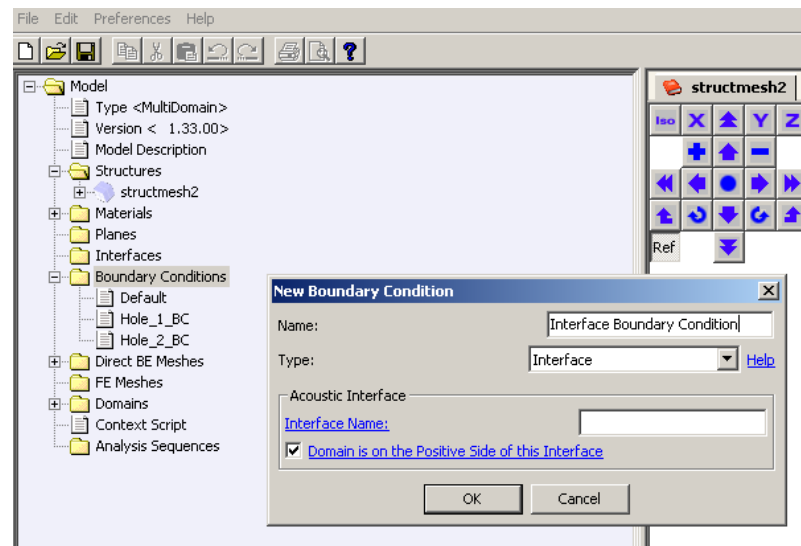

Figure 6.14 Interface Boundary Condition.
This Boundary Condition is applied on the boundary of an interface between two domains in a *MultiDomain* model. Physical details of the interface are provided in the **Model** → **Interfaces**. (Figure 6.14.)
6.5.2.1. Interface Name Defines the name of the acoustic interface. (Figure 6.14.)
6.5.2.2. Domain is on the Positive Side of this Interface Defines whether the acoustic domain being solved is on the positive side of the interface or not. (Figure 6.14.)